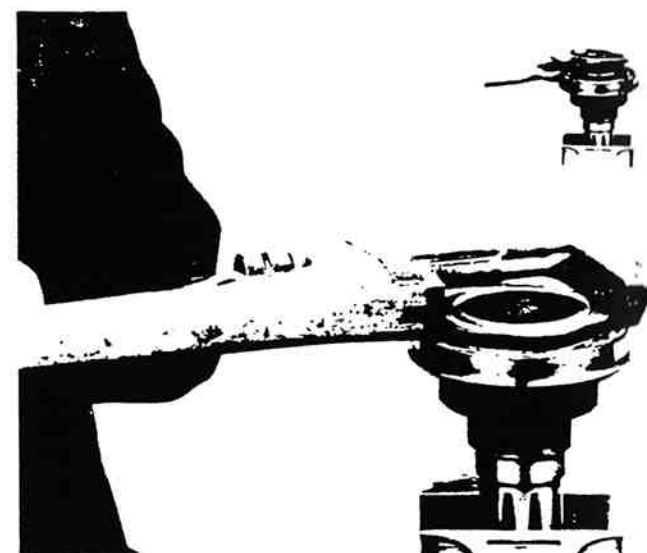

Figure 13-28. Bearing Nut Removal.
9. Remove the bearing nut from the output shaft, left hand thread (figure 13-28).